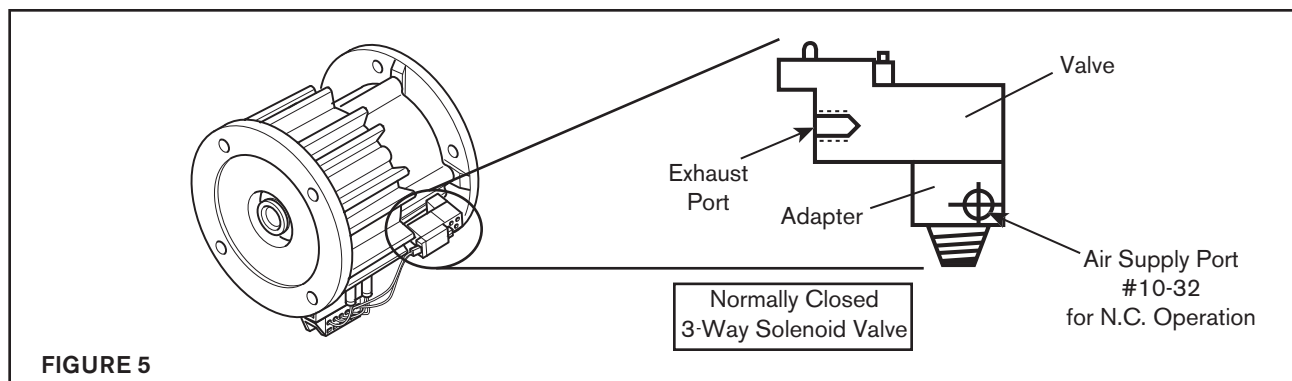

FIGURE 5
1. Connect the air line to the air inlet port of the Solenoid Valve (See Figure 5).